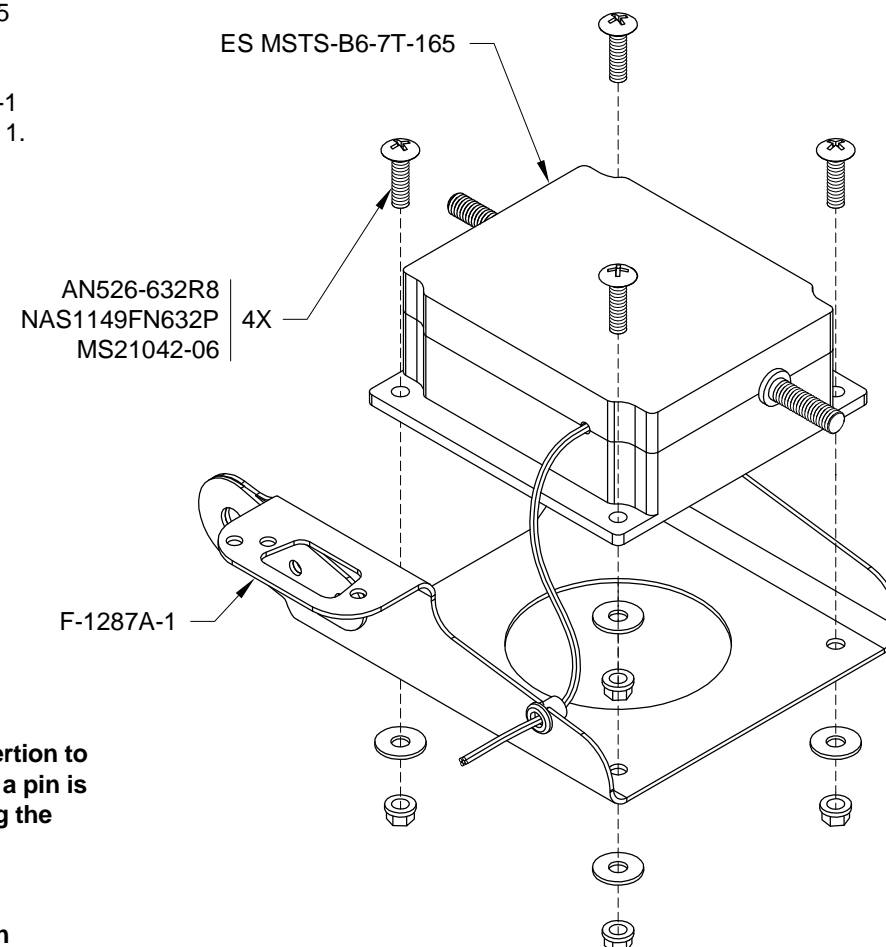

FIGURE 1: INSTALL SERVO
Step 1: String the wires of the ES MSTS-B6-7T-165 through the snap bushing as shown in Figure 1.
Step 2: Install the Pitch Trim Servo to the F-1287A-1 Servo Tray using the hardware called out in Figure 1.